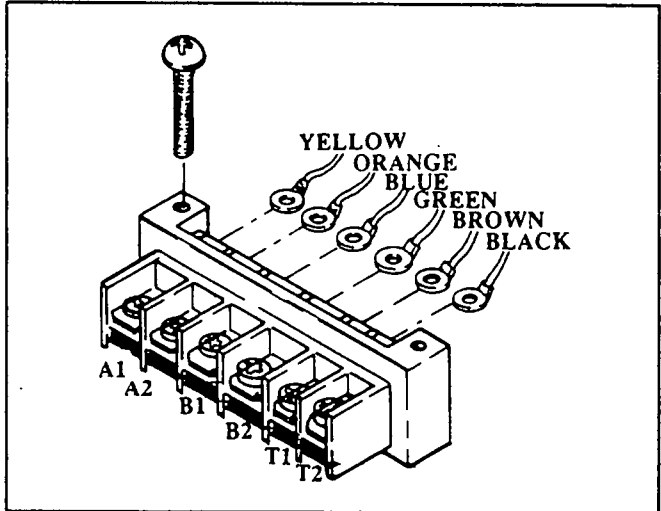

Figure 6. Terminal Strip Removal
1. See Figure 6. Remove two (2) screws that retain the terminal strip to the transfer mechanism.